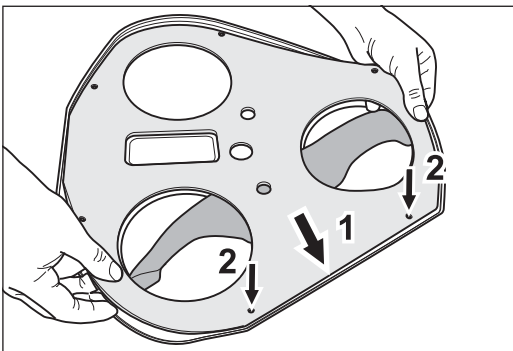

Fig. 104 Position the new sealing felt at one side first before fixing it completely in place.
- 6** Position the sealing felt at one side first (fig. 104, 1) before fixing it completely in place. Use the fixing holes in the cover for alignment (fig. 104, 2).